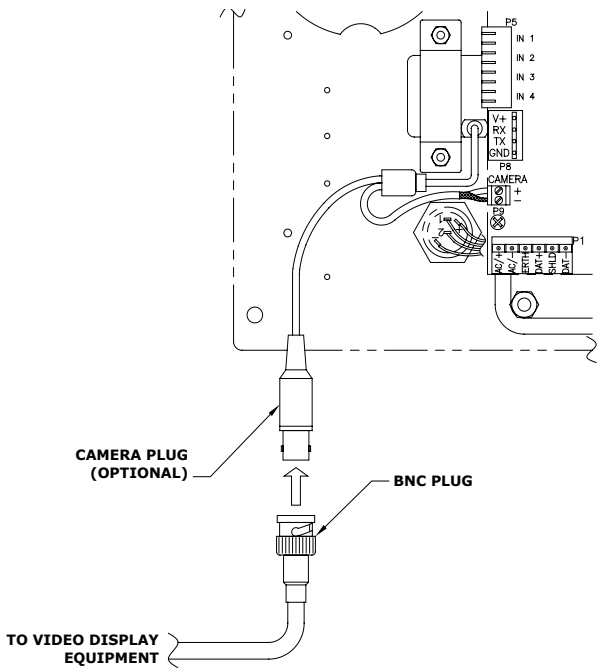

Figure 19
- Pinhole Camera.** Connect the video signal wire using RG59U video wire and BNC type connectors. The pinhole camera power is supplied by the APEX. It may be necessary to install a video amplifier or a video isolator depending on how the video system is installed. See Figure 19 for information on connecting the camera.